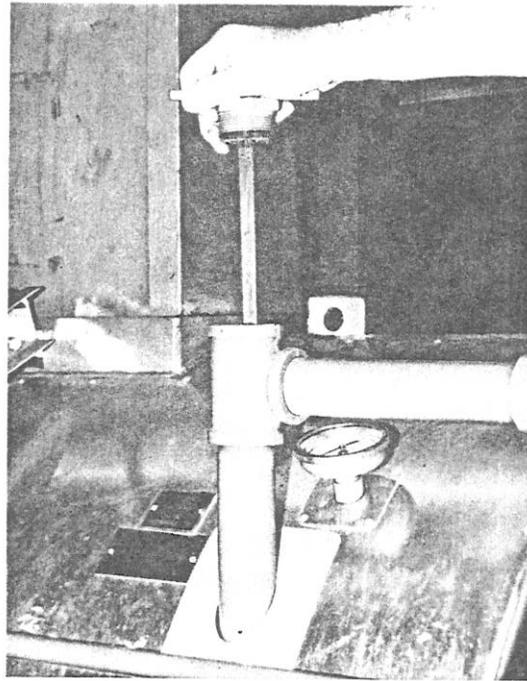

FIGURE 4 — Checking Heat Transfer Oil Supply
5. Check heat transfer oil supply, refer to figure 4. Check heat transfer oil level at ambient temperature with machine leveled. Oil should be at full mark at 70^o F. **DO NOT OVERFILL** or spillage will occur when machine reaches operating temperature.